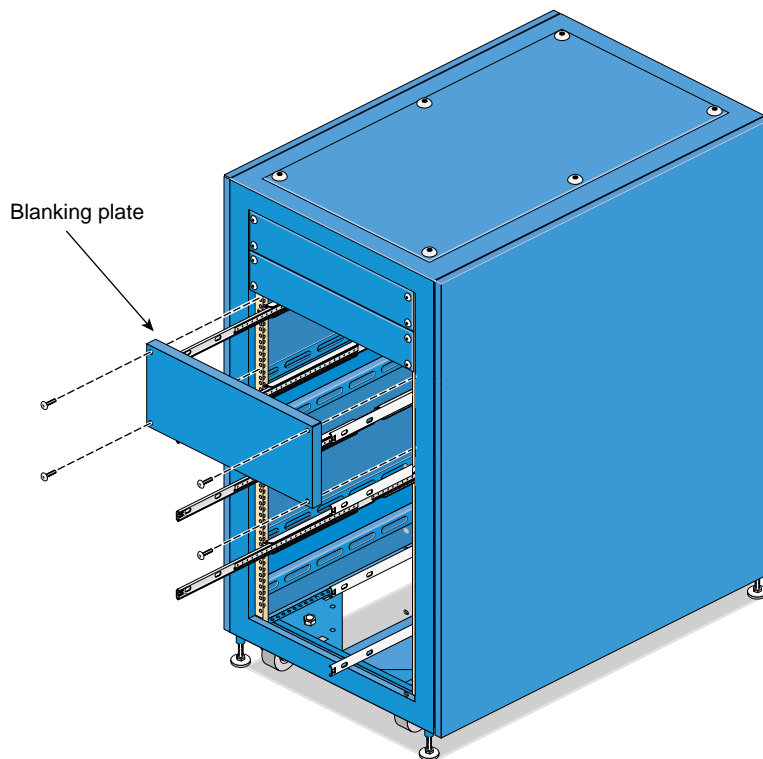

Figure 4-14 Removing a Node Blanking Plate
4. If you are adding a new node, remove the 4U node blanking plate at the front of the rack in the 4U space where the node will be placed. See Figure 4-14.